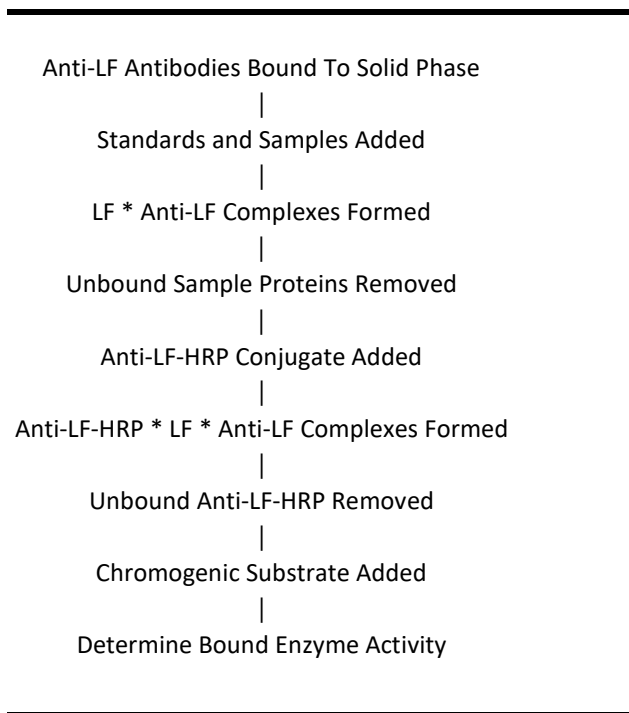

Figure 1
The principle of the double antibody sandwich ELISA is represented in Figure 1. In this assay the lactoferrin (LF) present in samples reacts with the anti-LF antibodies, which have been adsorbed to the surface of polystyrene microtiter wells. After the removal of unbound proteins by washing, anti-LF antibodies conjugated with horseradish peroxidase (HRP) are added. These enzyme-labeled antibodies form complexes with the previously bound LF. Following another washing step, the enzyme bound to the immunosorbent is assayed by the addition of a chromogenic substrate, 3,3',5,5'-tetramethylbenzidine (TMB). The quantity of bound enzyme varies directly with the concentration of LF in the sample tested; thus, the absorbance, at 450 nm, is a measure of the concentration of LF in the test sample. The quantity of LF in the test sample can be interpolated from the standard curve constructed from the standards, and corrected for sample dilution.